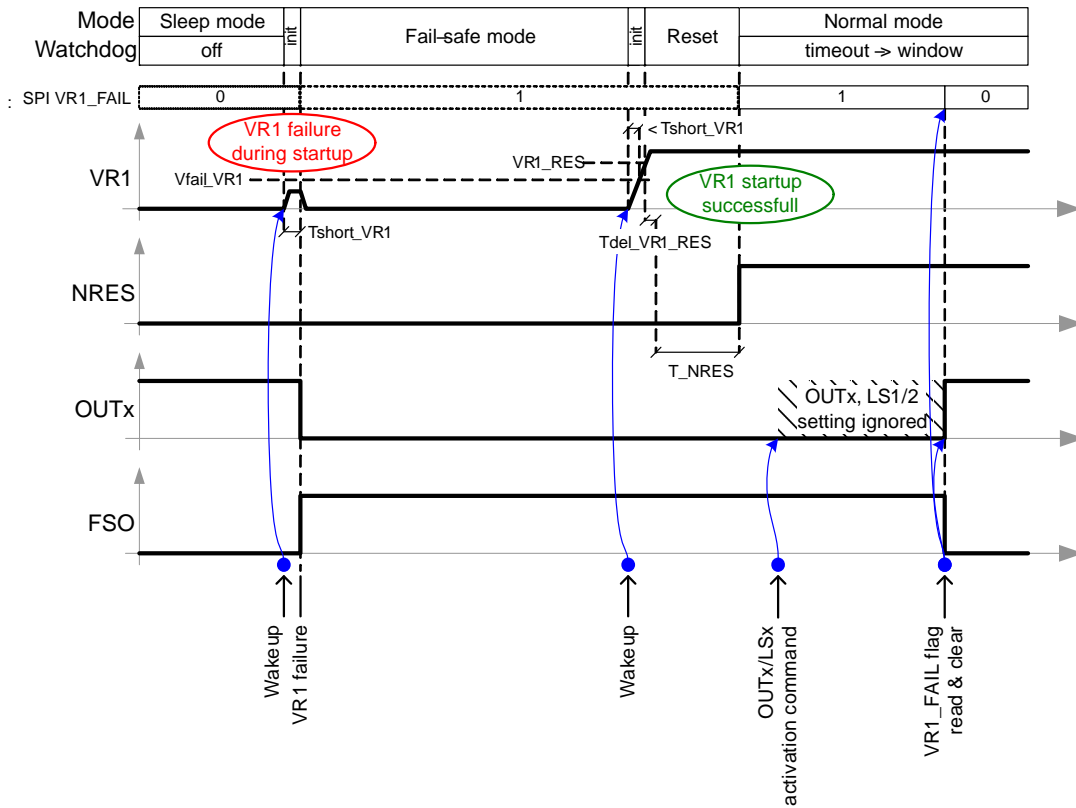

Figure 10. VR1 Monitoring - VR1 Failure during Startup
- VR1 Failure Comparator – during the VR1 start-up and operation, the VR1 voltage is continuously compared with V_{fail_VR1} level (typ. 2 V). During startup, if VR1 does not rise above V_{fail_VR1} level within T_{short_VR1} (typ. 40 ms), it’s considered shorted to ground and the device is forced to the Fail-safe mode (see Figure 10). During the VR1 operation, any dip below V_{fail_VR1} level longer than T_{fail_VR1} (typ. 5 μ s) is considered as a failure – temporary excursions of VR1 under the failure threshold can be caused, for example, by EMC, and can lead to memory data inconsistencies inside the MCU. Both the failure during VR1 startup and the operation are latched in the “VR1_FAIL” SPI bit for subsequent software diagnostics.